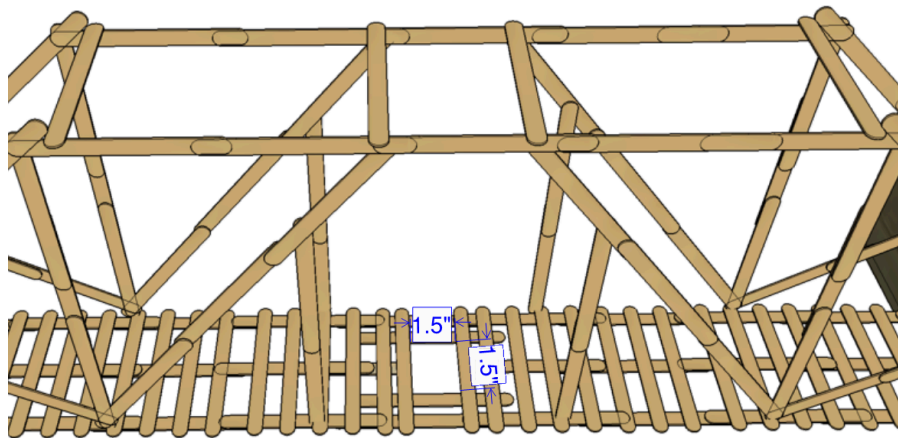

Figure 5 - Center 1.5" x 1.5" Opening Requirement (not to scale)
- Bridges must have a clear 1.5-inch x 1.5-inch opening along its center from top to bottom. Popsicle sticks can be cut only for this opening. Refer to Figure 5 below.